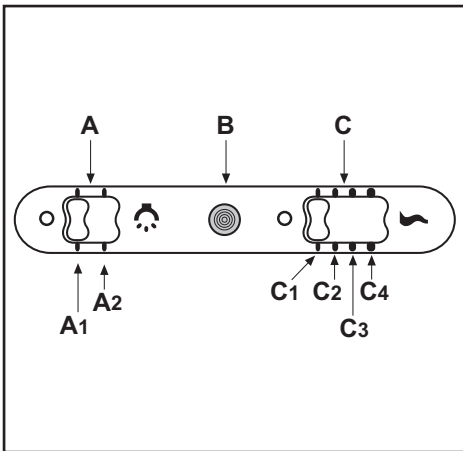

Fig.6
- **Comands (Fig.6) slider** the key symbols are explained below: